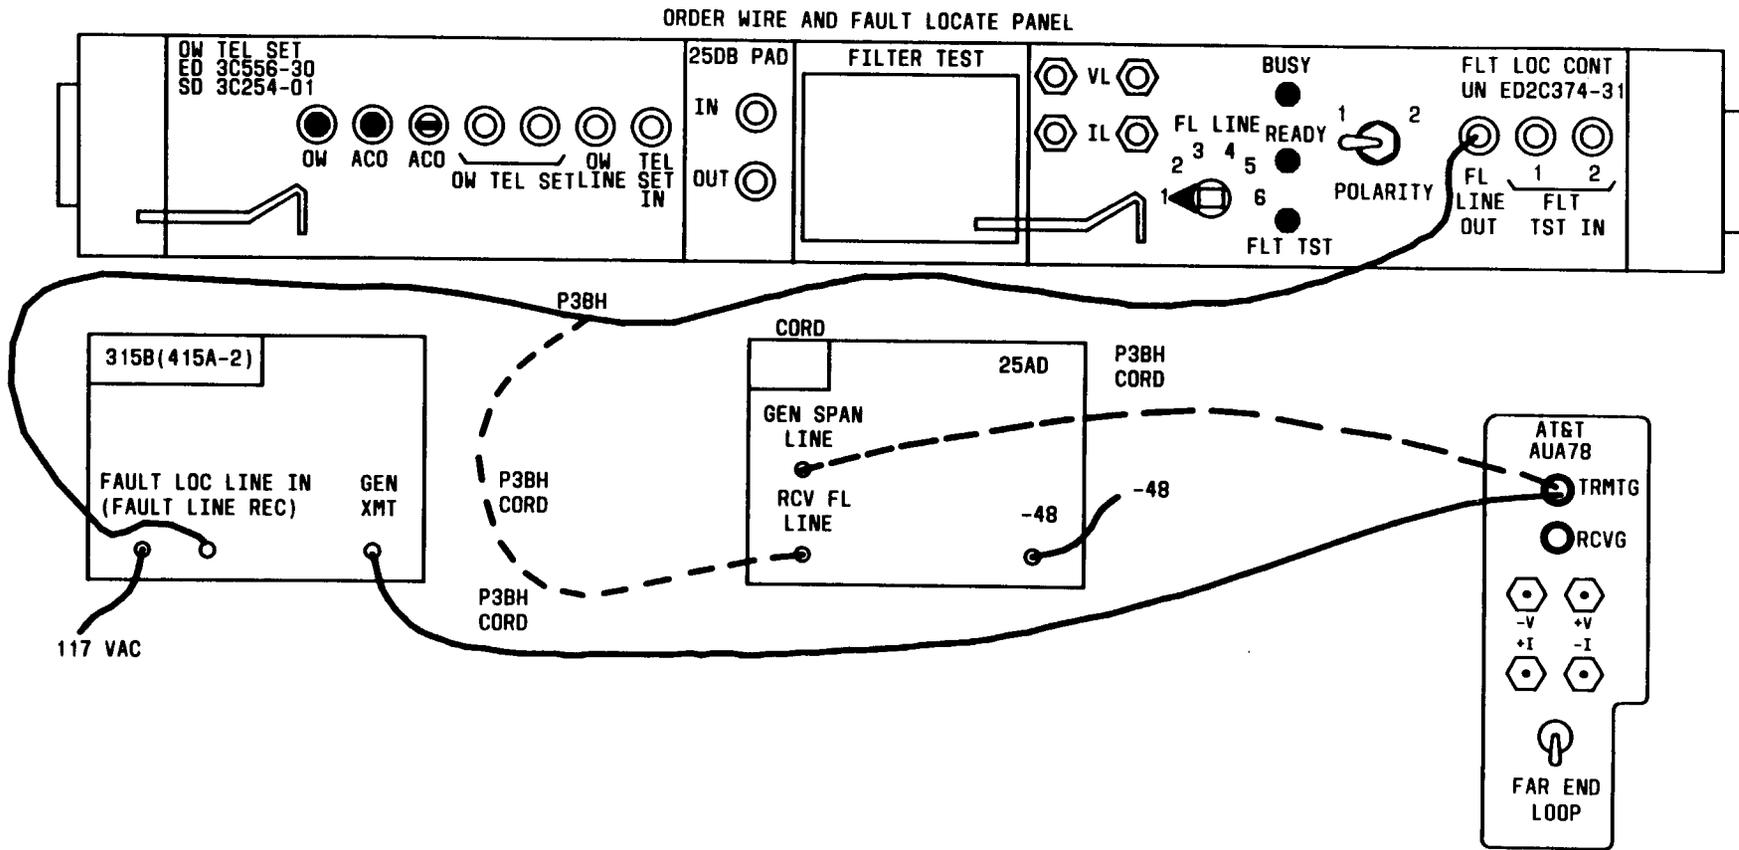

Fig. 3—COT Fault-Locating Configuration
10. Plug power cord into -48V source (FIG. 3).